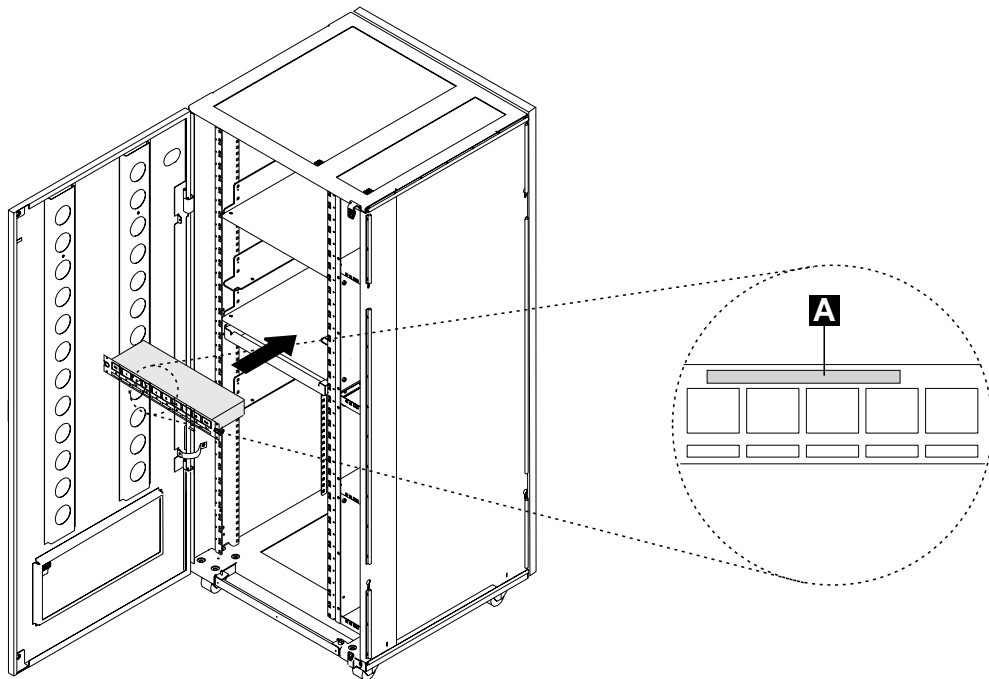

Figure 1-91. Installing the 8228 (Controller Expansion Rear side)
6. ____ Install the 8228 in a safe place near the service processor. If you received a controller expansion, the 8228 is installed on the rear side of the controller expansion using two screws (PN 1621232) and two captive nuts (PN 58G5766) see Figure 1-91. Using label **A** (PN 80G0680), identify the 8228 as Service Processor Access Unit. , then go to step 7 on page 1-81.